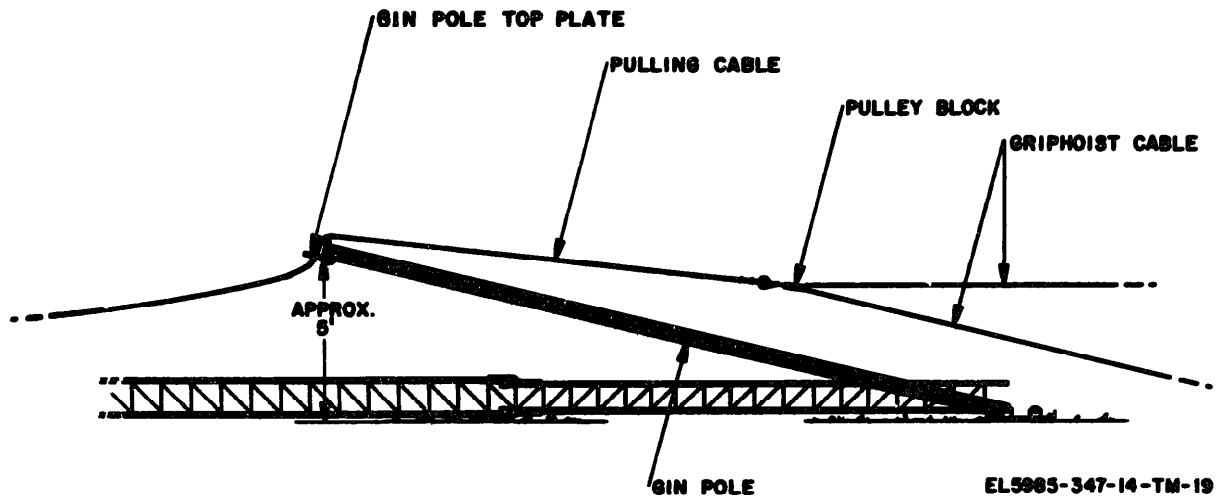

Figure 2-23. Lifting gin pole.
- f. Two men will manually lift the gin pole about 5 feet off the ground as shown in figure 2-23 making sure the pulling cable rests in the slot on the gin pole top plate assembly and that the wire rope clamps are on the correct side of the slot (fig 2-21).